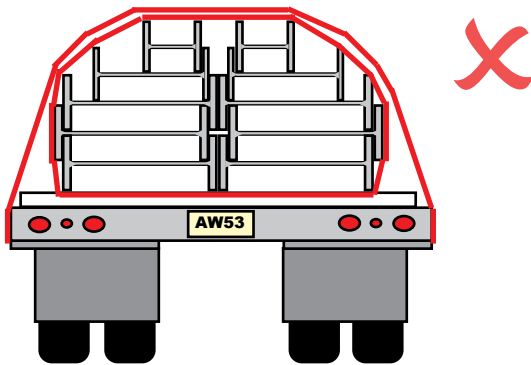

Fig 5.2 **Do NOT** use belly wrapped chains on multiple stacks.
- ✗ **Do NOT** load more than one stack across the trailer deck when belly wrapping with chains. (See Fig 5.2 & 5.3).